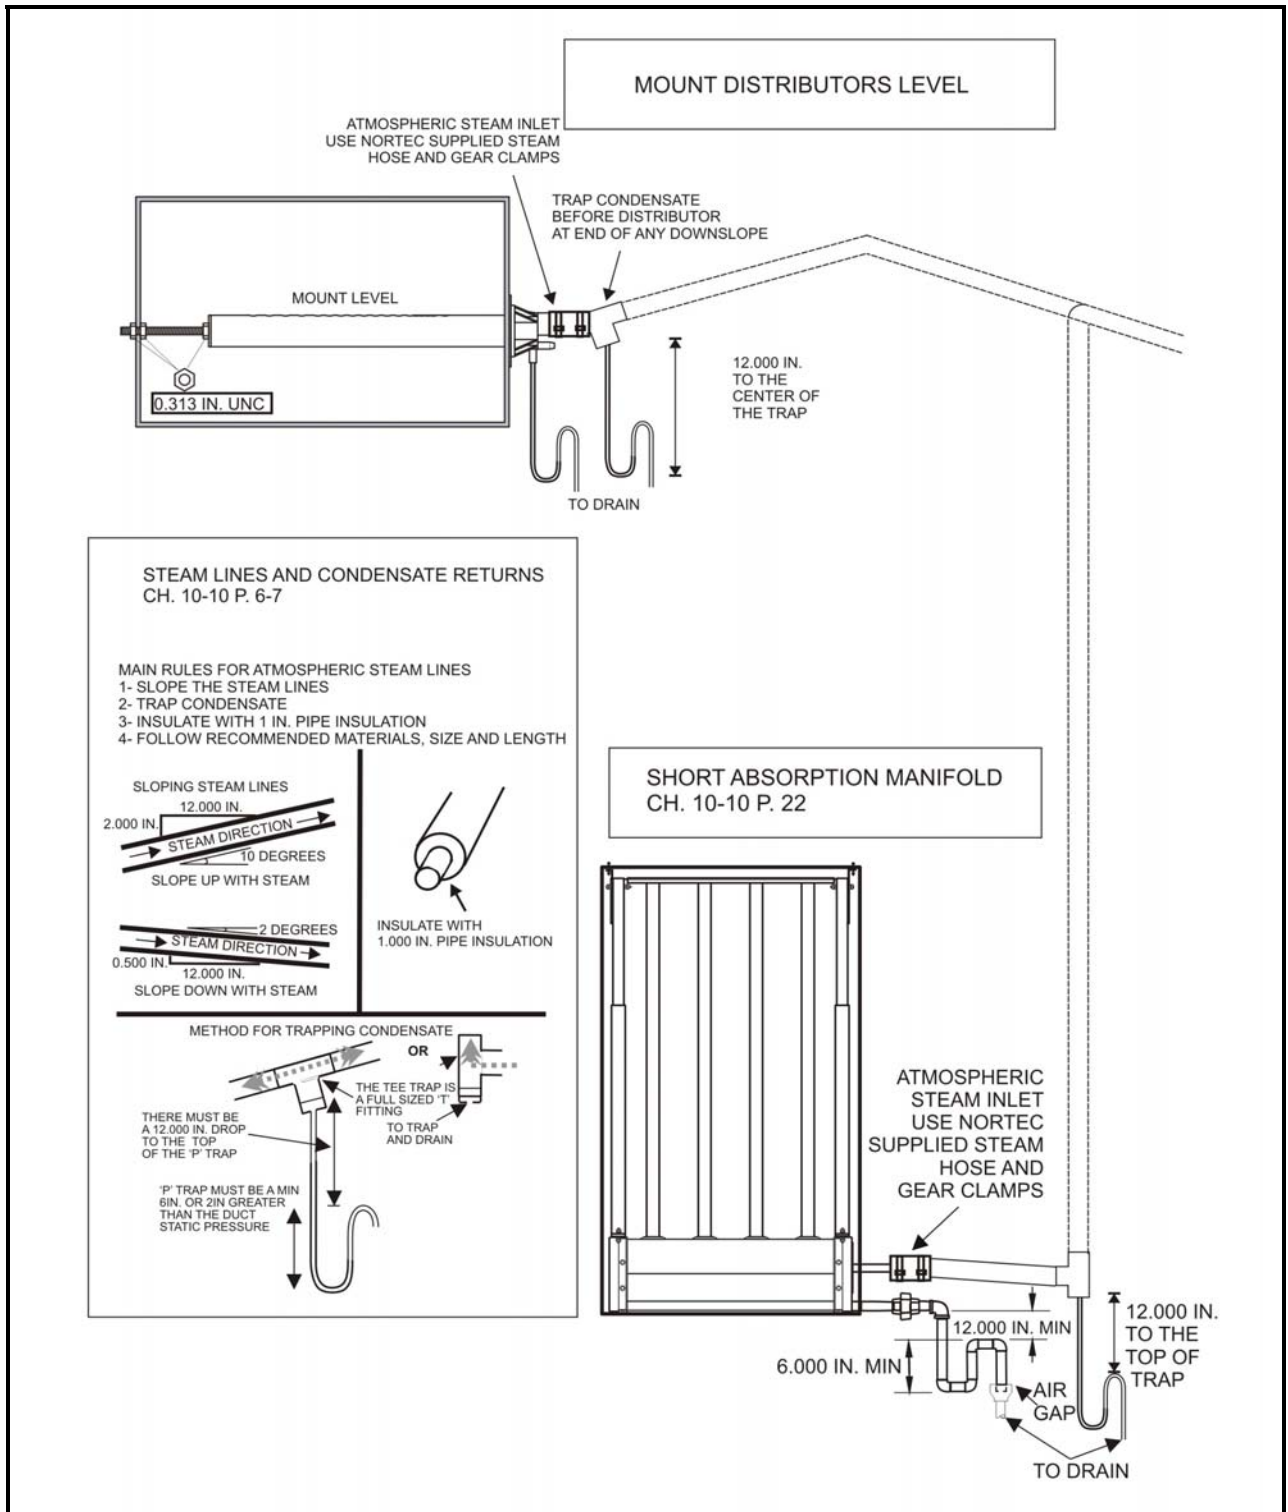

Figure 6. Typical NHRS Installation (Sheet 1 of 2)
- (1) Ensure the available voltage and phase correspond with humidifier voltage and phase as indicated on the humidifier's specification label.
- (2) Ensure that the external fuse disconnect is sufficient size to handle the rated amperage as indicated on the humidifier's specifications label. Refer to local building codes.
- (3) Report any discrepancy immediately to the site engineer.
- (4) Location and mounting is described in Chapter 10-10.
- (5) For typical installation see Figures 6 & 7.